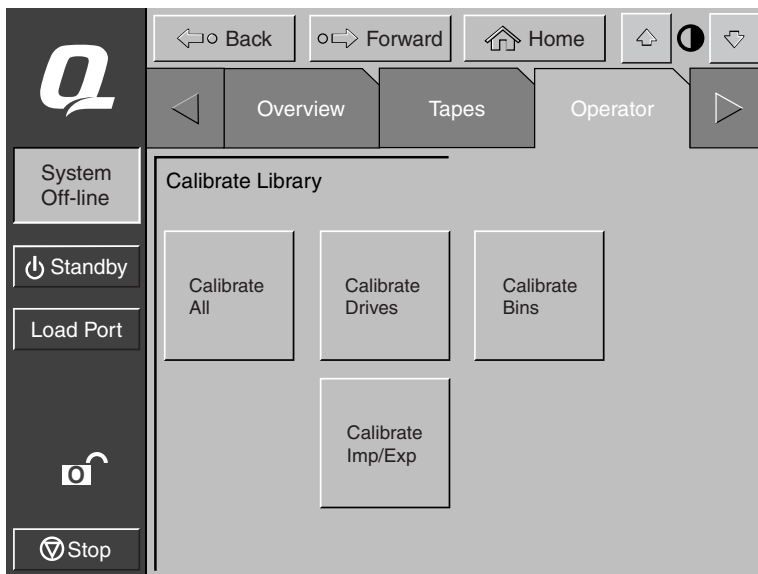

Figure 4-6. Calibrate Library screen
1. On the Operator page, press the **Calibrate Library** button. The control panel displays the Calibrate Library screen (see Figure 4-6).